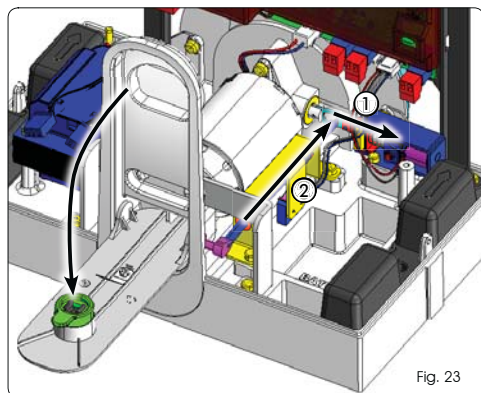

Fig. 23
! *Lowering the release lever, both the motor lock, which is retracted (Fig. 23 re. ①), and the safety microswitch forcing the automation to STOP (Fig. 23 re. ②) are operated.*